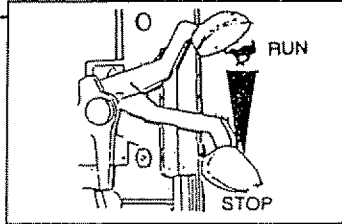

FIG. 6
- First, move engine throttle lever to "STOP" position (Fig. 6).